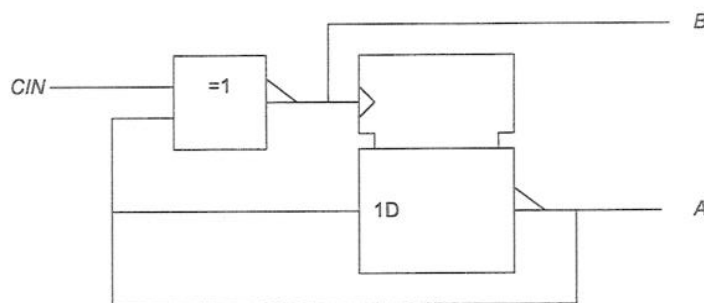

Figure 5.2
- c) Figure 5.2 shows a clock generation circuit. Assuming that CIN is a symmetric clock signal, draw the timing waveform for the output signals A and B. What is the relationship between B and CIN? What is the maximum frequency of CIN for this circuit to work correctly?